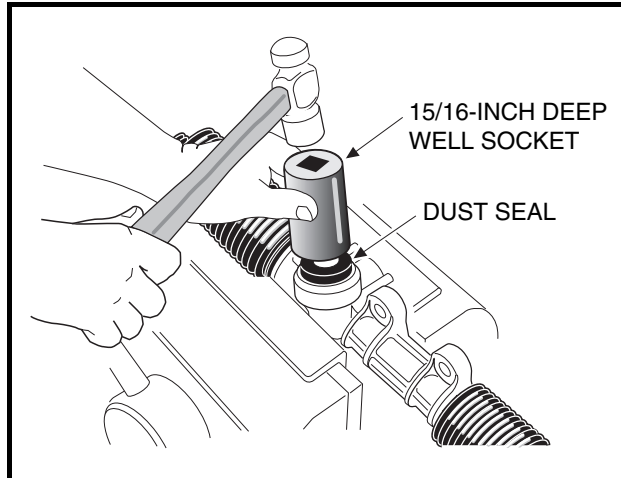

Figure 7-13 Press In Dust Seal
8. Using a socket to apply pressure evenly, press in a new dust seal (**Figure 7-13, Page 7-12**).